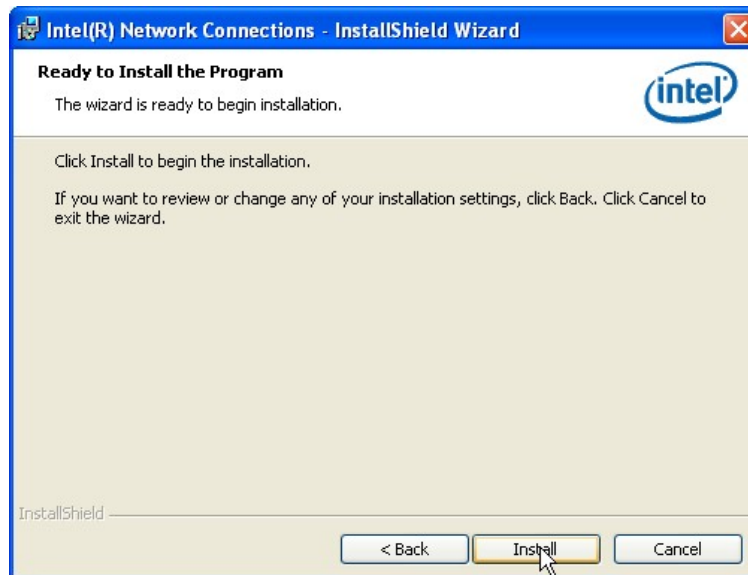

Figure 6-17: LAN Driver Installation
Step 14: The **Ready to Install the Program** screen in Figure 6-17 appears.